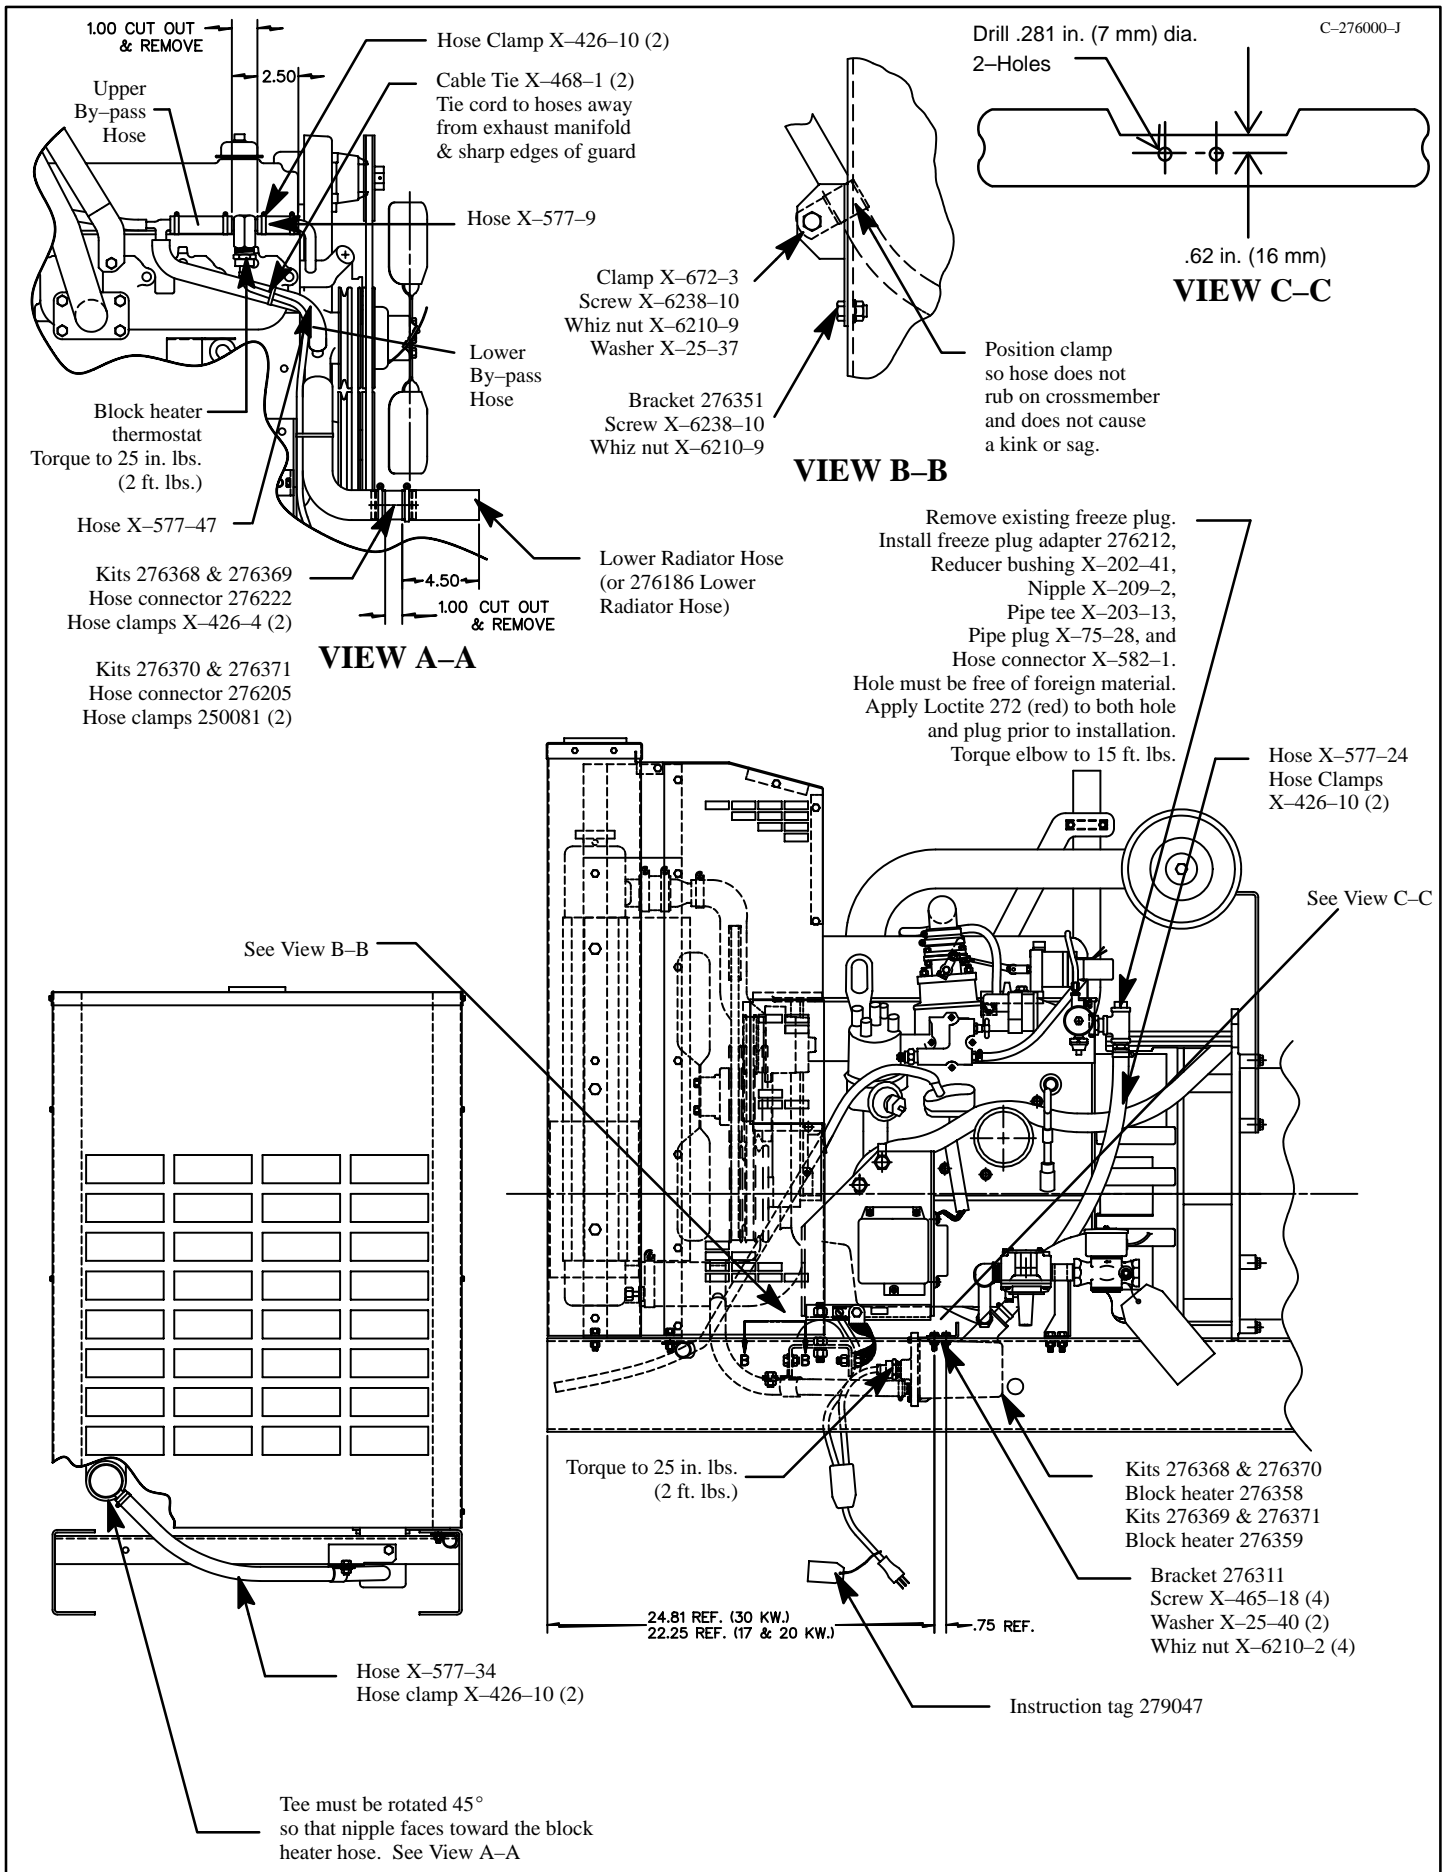

Figure 8. Block Heater Installation
9. Remove freeze plug from rear of cylinder head. See Figure 8 for location. To remove freeze plug, use a freeze plug puller, or puncture center with punch and pry out. Clean hole and remove burrs.
Early generator sets may not have pre-drilled holes in skid. Use bracket as a template and drill two 19/64 in. (7 mm) dia. holes in skid. See Figure 8 and View B-B for location.
20. Install block heater 276358/276359 to bracket using two screws X-465-18, plain washers X-25-40, and whiz nuts X-6210-2. Note the torque specification in Figure 8.
23. Install the support bracket 276351 to the generator's cross member (see Figure 8, view B-B) using screw X-6238-10 and whiz nut X-6210-9. Route hose X-577-34 through clamp X-672-3. Attach clamp to bracket using screw X-6238-10, whiz nut X-6210-9, and washer X-25-37. Position clamp so that hose does not kink, sag, or rub on cross member.
24. Remove existing by-pass hoses and clamps. Discard hoses, save clamps. See Figure 8. Position new hoses X-577-47 and X-577-9 using existing clamps to secure.
25. Locate upper by-pass hose X-577-9 (see Figure 8, view A-A) and mark at 2-1/2 in. (64 mm) and 3-1/2 in. (89 mm) from end of hose. Cut at these marks to remove 1 in. (25 mm) from hose.